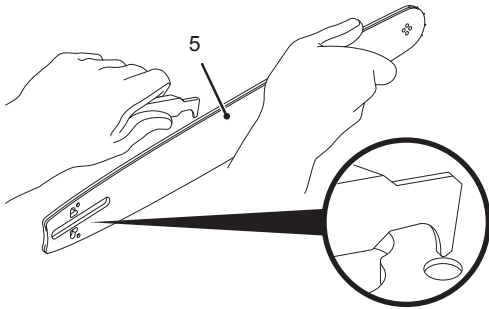

Fig. 15
1. Disassemble the guide bar (5) and saw chain (4) in reversed order from assembly.
2. Check the drive sprocket (18). If it is worn or damaged due to strain, have it replaced by an authorised service agent or a similarly qualified person.
3. Clear residue from the rails on the guide bar (5) by using a screwdriver, putty knife, wire brush or other similar tool. This will keep the oil passages open to provide proper lubrication to the guide bar (5) and saw chain (4) (Fig. 15).